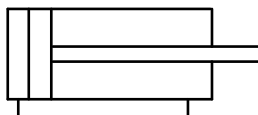

FIG 2.
C. The symbol for a double-acting cylinder is shown in Fig.2.